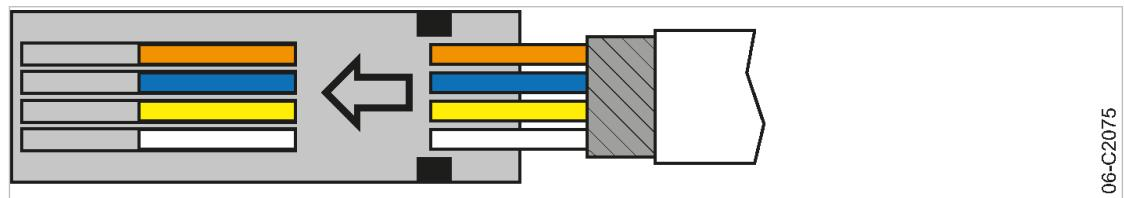

Fig. 5 Inserting the network cable conductors
SIGMA AIR MANAGER 4.0: The cable gland cover (Fig. 5, ⑧) is realized with pre-punched passage options (right, left and bottom) for laying the conductors. Attach cable ducts or harnesses so that you can utilize the break-throughs.